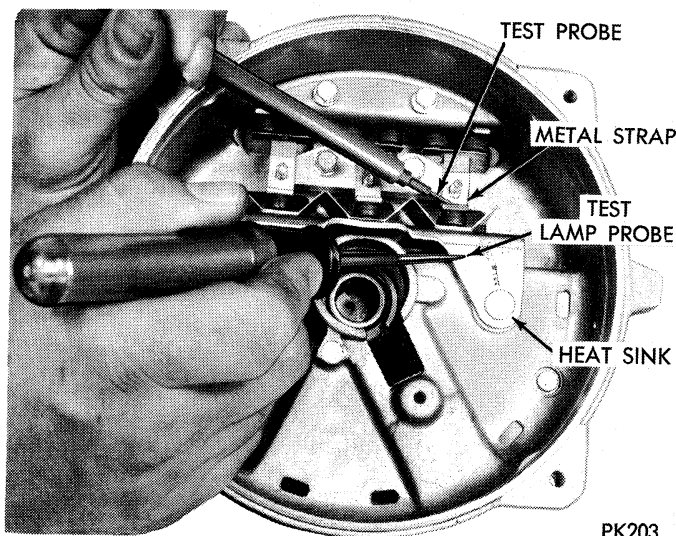

Fig. 47—Testing Rectifiers With Test Lamp
- (1) Contact heat sink of rectifier with test lamp probe and other test probe to metal strap on top of rectifier (Fig. 47).
- (2) Reverse probes, moving test lamp probe from rectifier heat sink to rectifier metal strap and probe from rectifier strap to rectifier heat sink.